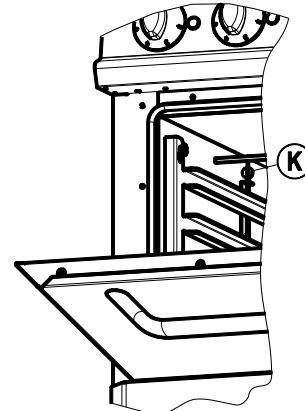

Fig.3
- When cleaning, take care not to damage the thermostat sensor "**K**" (fig.3) located within the oven.